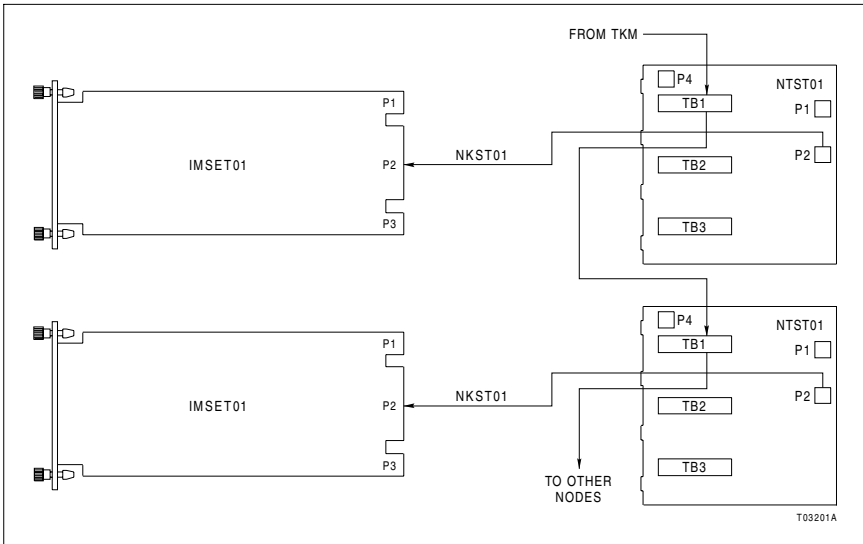

Figure B-2. NTST01 Sequential Network Connection
The connections of the NTST01 unit to the IMSET01 module and the corresponding jumper settings are different for sequential and star network connections. The connections in the sequential network are shown in Figure B-2, and the corresponding jumper settings are indicated in Table B-1.
The NTST01 unit is used by the INTKM01 module to transmit the sync time information to the IMSET01 modules. Table B-3 shows the NTST01 jumper setting for INTKM01 connection. Figure B-2 shows the location of the jumpers and the connectors on NTST01 unit.
3. Connect the cables as shown in Figures B-2 and B-3 and in Table B-4.